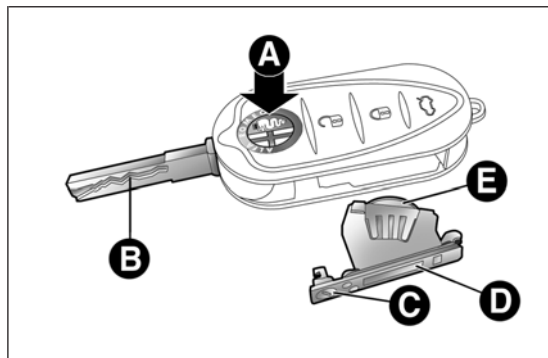

fig. 16
- press button A fig. 16 and move the metal insert B to opening position; turn screw C to  using a fine bit screwdriver;